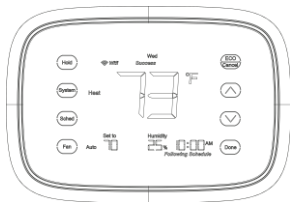

Fig. 39.
1. Press **Sched**, the screen will change. See Fig. 39 and 40.